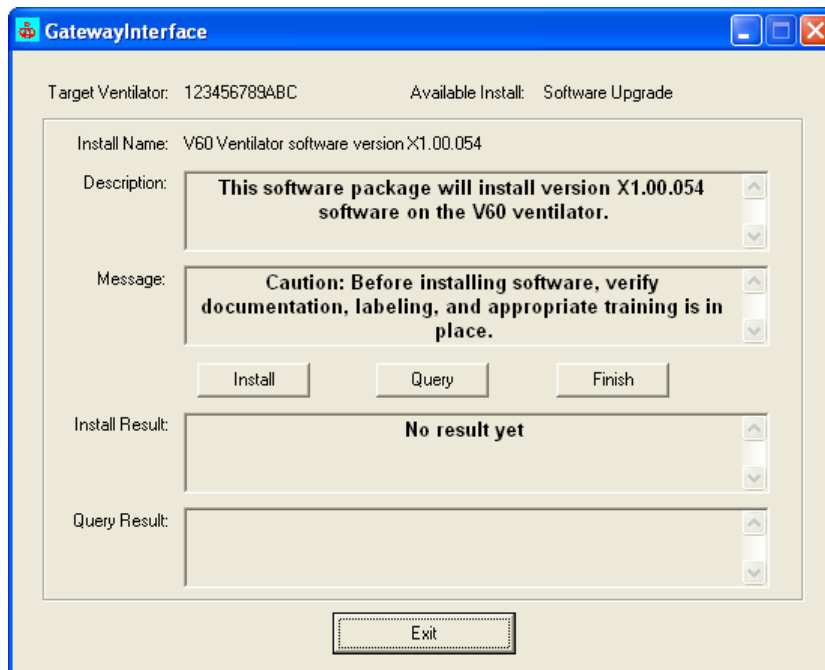

Figure A-1: Software Package Screen
4. Within 30 seconds, the GatewayInterface screen appears on the PC monitor if a software package is pending (Figure A-1).